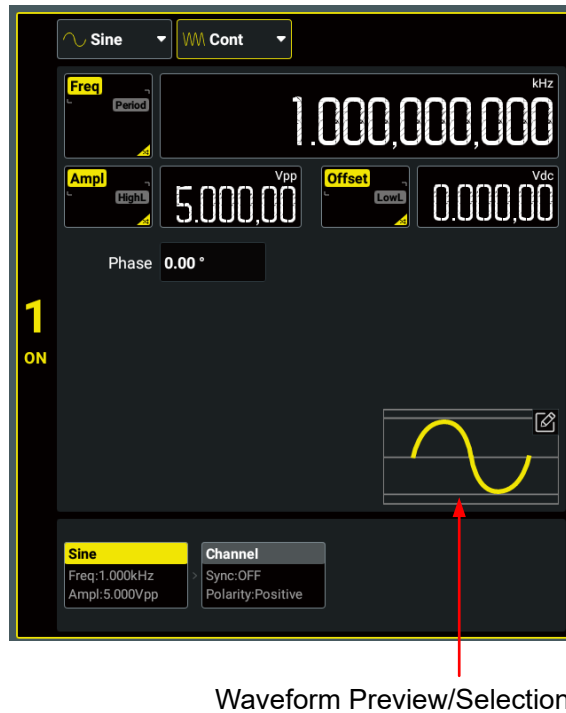

Figure 5.1 Continuous Setting Interface
- In the Continuous Setting Interface (*Figure 5.1*), click or tap the "Wave Type" drop-down button to select "Sine".
- In the Continuous Setting Interface (*Figure 5.1*), click or tap the "Waveform Preview/Selection" area and then click or tap **Built In Wforms** > **Sine**.
- In the Continuous Setting Interface (*Figure 5.1*), click or tap the "Basic Wave Type" drop-down button to select "Square".
- In the Continuous Setting Interface (*Figure 5.1*), click or tap the "Waveform Preview/Selection" area and then click or tap **Built In Wforms** > **Square**.
- In the Continuous Setting Interface (*Figure 5.1*), click or tap the "Wave Type" drop-down button to select "Ramp".
- In the Continuous Setting Interface (*Figure 5.1*), click or tap the "Waveform Preview/Selection" area and then click or tap **Built In Wforms** > **Ramp**.